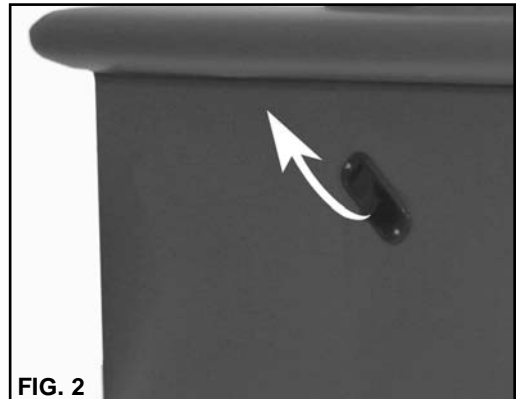
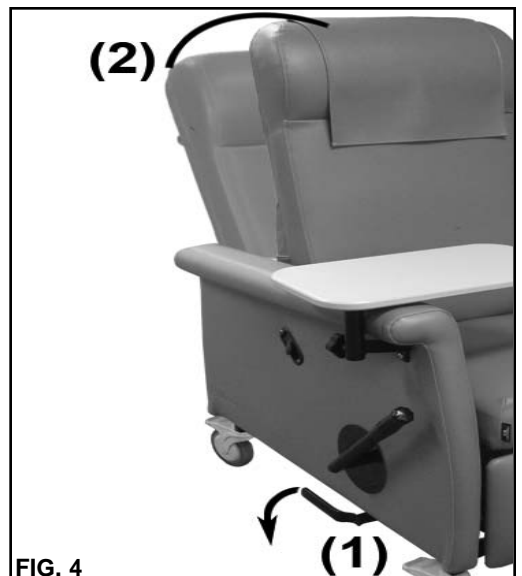

FIG. 2
FIG. 4
3. **TRENDELENBURG** (or lowering the back farther than the positions specified in the above steps) **CAN ONLY BE PERFORMED BY AN ATTENDANT.** **(FIG. 4, #1 & #2)**
To LOWER the Back into the Trendelenburg position: Recline the chair to full recline; Depress the Foot Lever **(FIG. 4, #1)** and continue to push Back down to the Trendelenburg position. **(FIG. 4, #2)**
4. To RAISE the chair Back upwards from Trendelenburg: Pull up on the back. **(FIG. 4, #2)** For further upward adjustment, pull out on either Back Release Handle **(FIG. 2 or 3)** until the desired position is reached, or until chair back is fully upright.